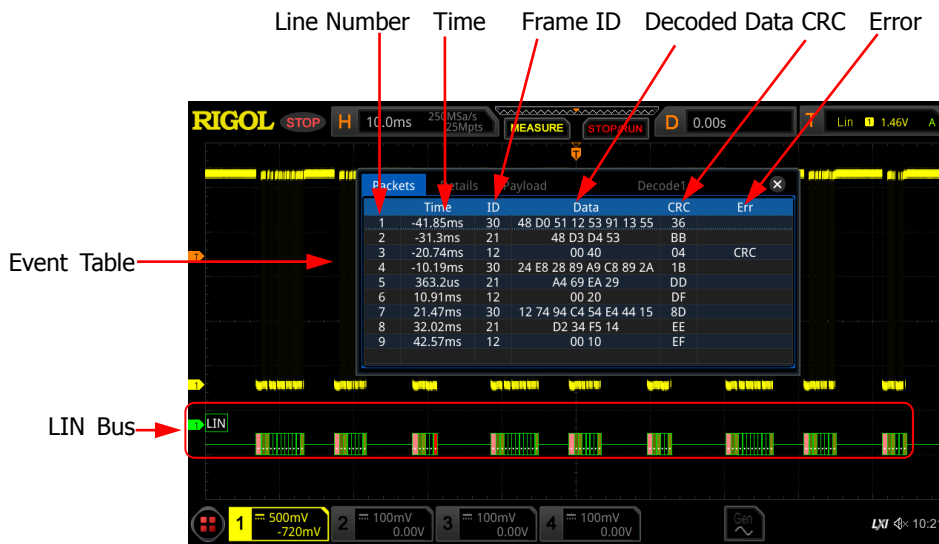

Figure 11-9 LIN Decoding Event Table
- Open or close the event table: Click **Event Table** continuously to enable or disable the event table. When you enable the event table, the following figure is displayed, as shown in Figure 11-9. You can click on the icon  at the upper-right corner of the table to close the event table. Besides, when the operating status is "STOP", you can select a specified line and view the corresponding decoding information.